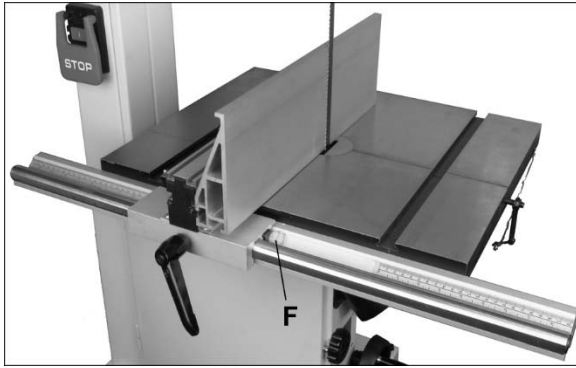

Figure 5-10
8. Move fence against blade (do not deflect blade by pushing into it). See Figure 5-10.
11. With fence against blade, verify that cursor (F, Figure 5-10) aligns with zero on scale.